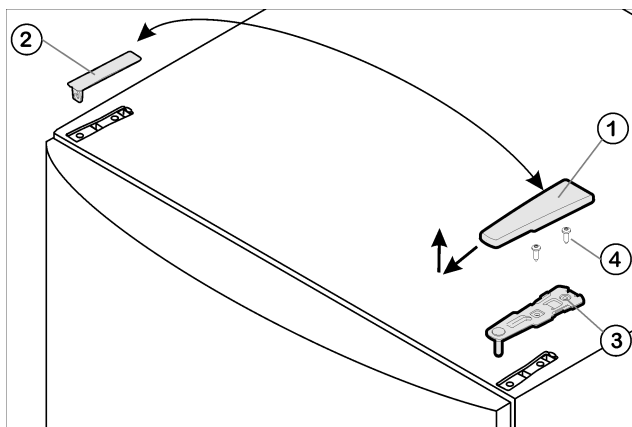

Fig. 5
- ▶ Pull the cover Fig. 5 (1) forward and up.
- ▶ Lift the cover Fig. 5 (2) off.
- ▶ Unscrew the upper bearing bracket Fig. 5 (3)(2 Torx® 25 screws) Fig. 5 (4) and pull it upward to remove.
- ▶ Insert the upper bearing bracket Fig. 5 (3) on the new hinge side into the door.
- ▶ Tighten the upper bearing bracket **(to 4 Nm)** (2 x Torx® 25 screws) Fig. 5 (4). Make preliminary holes (optional) or use a cordless screwdriver.
- ▶ From the outside, position cover Fig. 5 (1) and cover Fig. 5 (2) on the opposite side and snap into place.